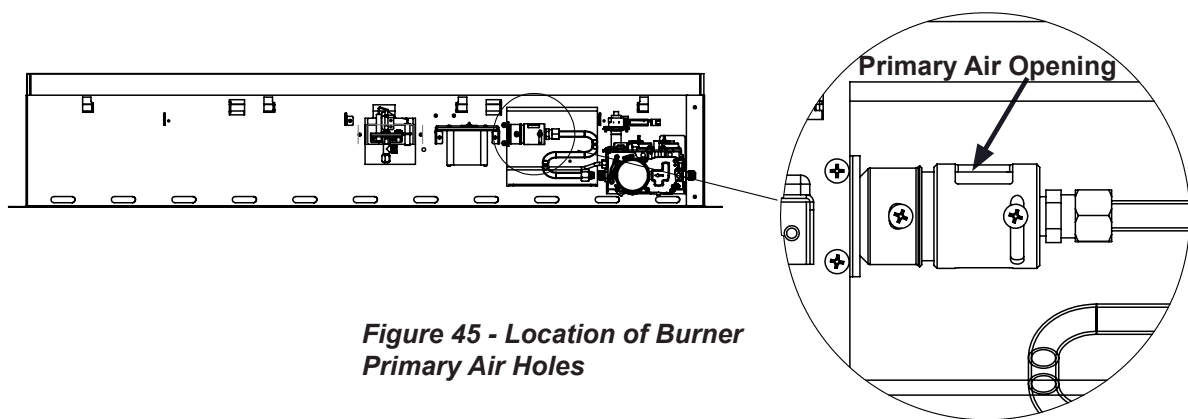

Figure 45 - Location of Burner Primary Air Holes
2. Inspect burner, pilot and primary air inlet holes on injector holder for dust and dirt (see Figure 45, page 26).